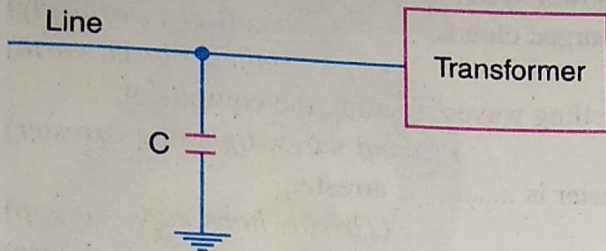

Fig. 24.14
- (i) A condenser connected between the line and earth can act as a surge absorber. Fig. 24.14 shows how a capacitor acts as surge absorber to protect the transformer winding. Since the reactance of a condenser is inversely proportional to frequency, it will be low at high frequency and high at low frequency. Since the surges are of high frequency, the ***capacitor